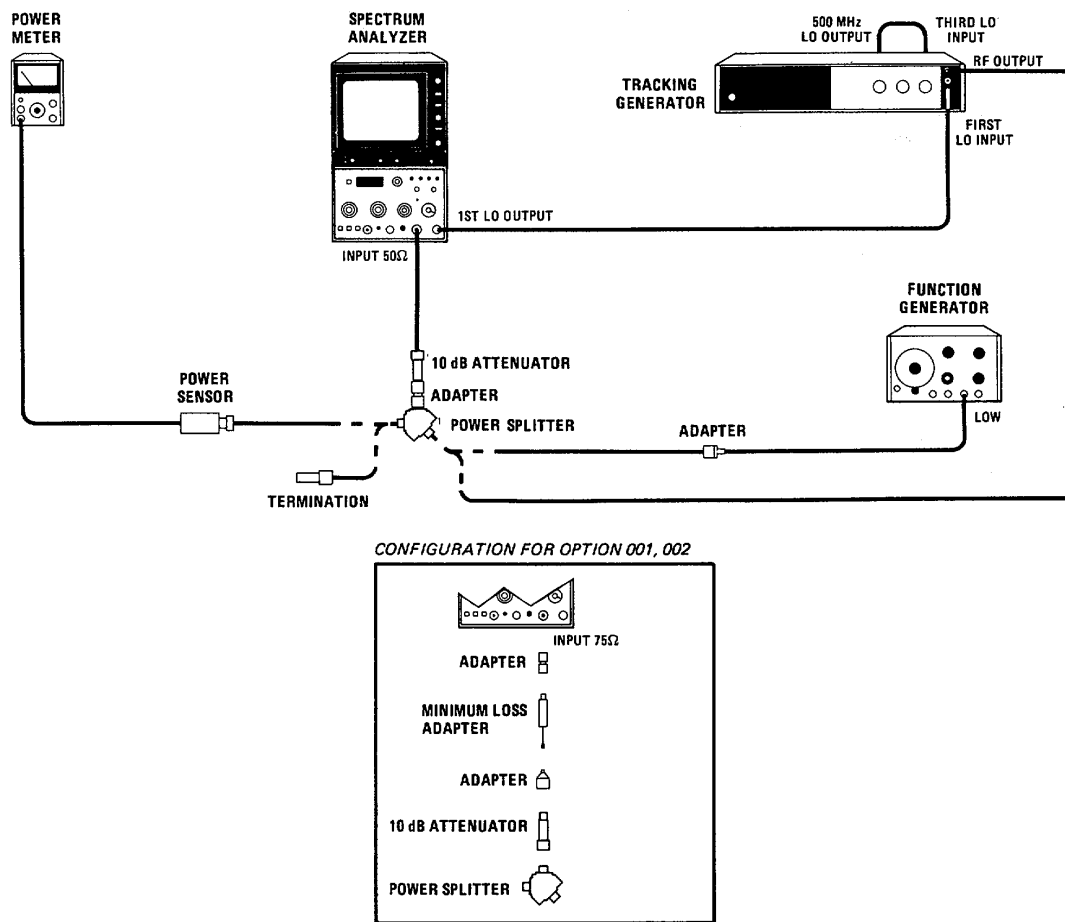

Figure 4-17. Frequency Response Test Setup
3. Adjust TUNING for a FREQUENCY MHz reading of 5.0 MHz. Press FREQUENCY CAL. Set up equipment as shown in Figure 4-17. Connect the tracking generator 500 MHz LO OUTPUT to the THIRD LO INPUT (rear panel).